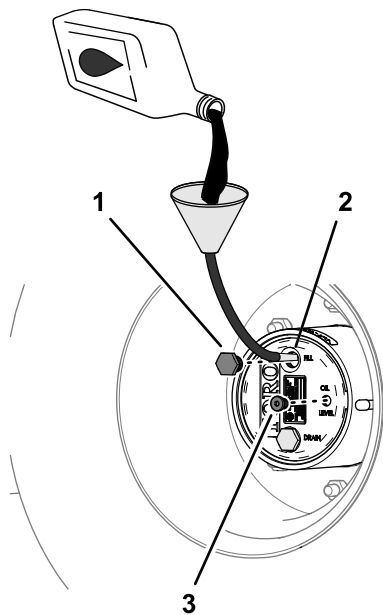

Figure 99
4. If the lubricant level is low, remove the fill plug and add the specified lubricant until it begins to flow out of the check-plug hole (Figure 99); refer to Planetary-Gear-Drive Lubricant Specification (page 69).
6. Install the fill plug and the check plug (Figure 99).
1. Through the fill-plug hole, slowly add the specified gear lubricant; refer to Figure 99 in Checking the Planetary-Gear-Drive Lubricant (page 69).
3. Install the fill plug and check plug; refer to Figure 99 in Checking the Planetary-Gear-Drive Lubricant (page 69).